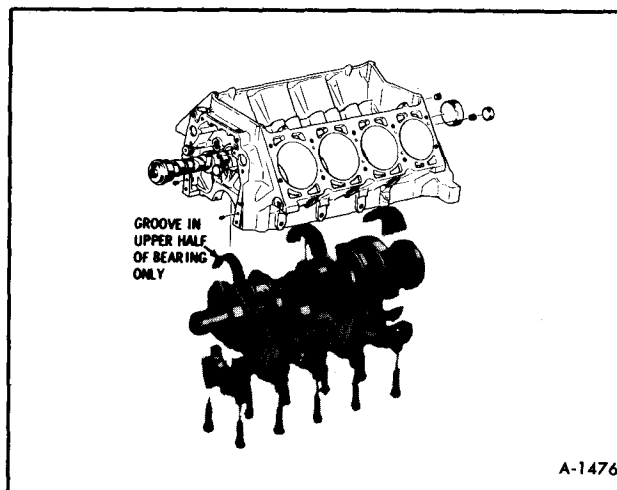
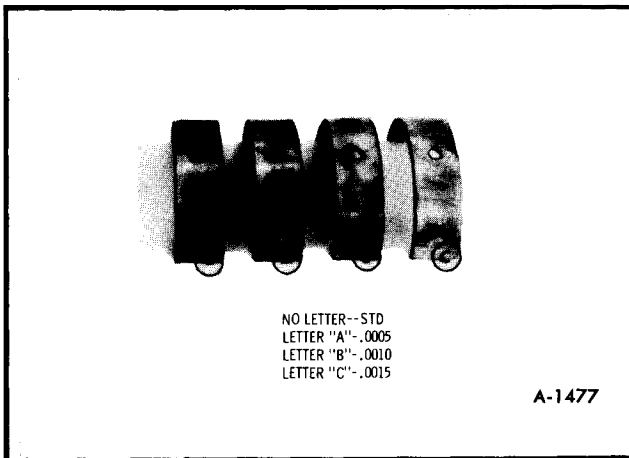

Figure 70—Crankshaft Exploded View
Figure 71—Main Bearing
NOTE: The upper and lower shells must be installed in pairs (figure 70). Sizes of the bearings are located on the tang (figure 71). It is possible to have more than one bearing size in the same engine.
4. Apply sealer on shaded areas of Figure 71.